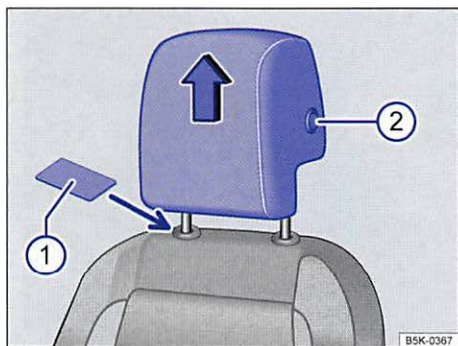

Fig. 39 Removing the front head restraints.
- Slide a flat object, such as a plastic credit card, underneath the right side of the cap on the right-hand seat guide rod $\Rightarrow$ fig. 39 ①.
- To release the left-hand guide rod, press button ② in (towards seat rod) and hold.
- Pull the head restraint out completely while holding button ②.